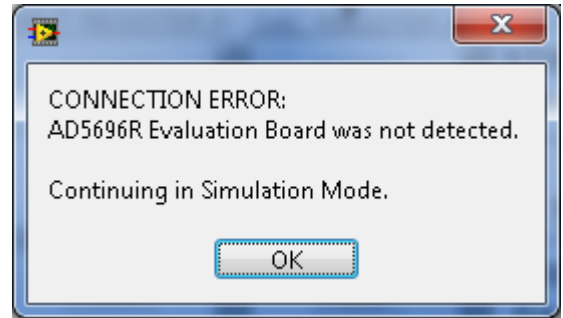

Figure 3. Simulation Mode Message
3. If the SDP board is not connected to the evaluation boards a message box appears as shown in Figure 3. Check the connection between the SDP and EVAL-AD5696SDZ/ EVAL-AD5694SDZ boards and or use simulation mode.